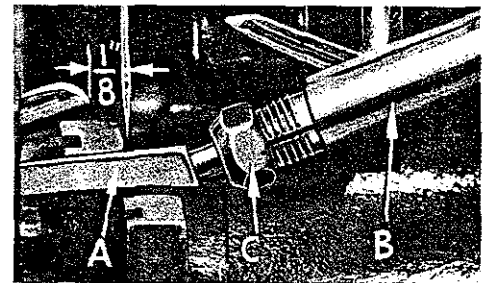
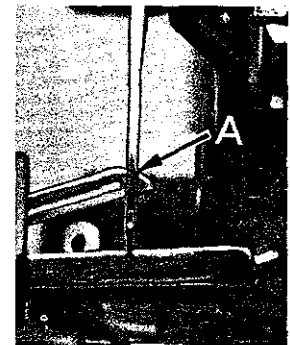

Fig. 5
Fig. 7
At this point, insert lower looper (A, Fig. 5) into bar (B). With lower looper at left end of its stroke, set looper point 1/8 inch from center of needle (Fig. 5), using looper gauge No. 21225-1/8, on Styles 39500 FS, FT, FU, GT and JP. On Styles 39500 GD and GL, with lower looper at left end of its stroke, set looper point 1/16 inch from center of left needle, using looper gauge No. 21225-1/16. Now assemble differential (front) feed dog.
Now finish lower looper adjustment. As lower looper moves to the right, its point should be set into the needle scarf (A, Fig. 7) until the needle springs forward from rear guard surface another .002-.004 inch. Tighten nut (C, Fig. 5) securely.